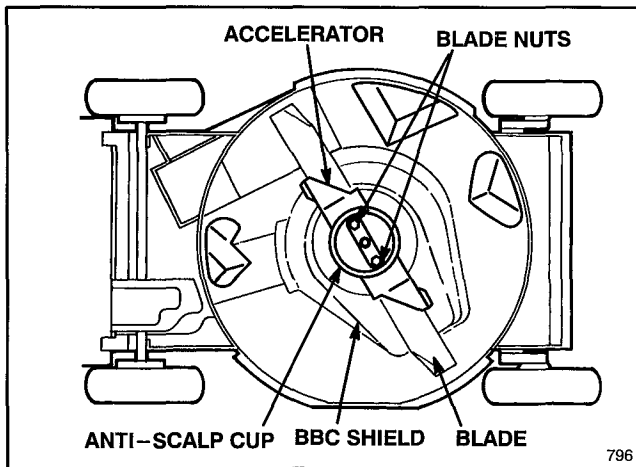

Figure 33
3. Tip mower on its left side (Fig. 33).
4. Remove (2) blade nuts, anti-scalp cup, accelerator, blade, blade spacer, and (3) bolts and washers securing BBC shield to mower deck (Fig. 33).